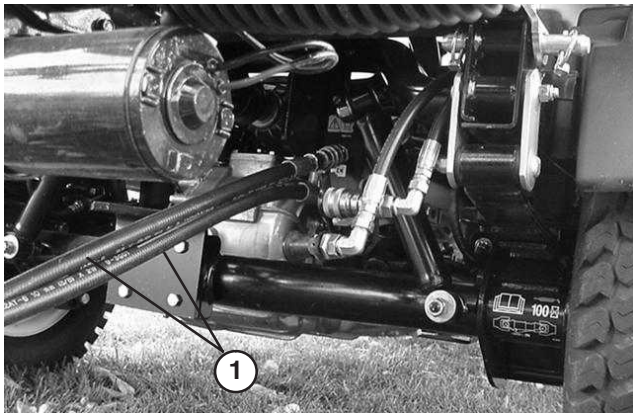

Figure 56
- On the other vehicle, connect the two hoses to the coupler still in the coupler bracket (Connect the top hose to the top coupler and the bottom hose to the bottom coupler (Fig. 56). Cap unused fittings.